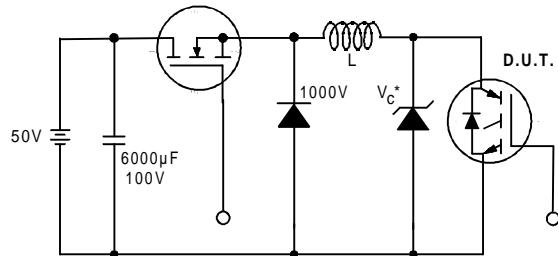

Figure 19. Clamped Inductive Load Test Circuit
- ② $V_{CC}=80\% (V_{CES})$, $V_{GE}=20V$, $L=10\mu H$, $R_G = 100W$ (figure 19)
- ③ Pulse width $\leq 80\mu s$; duty factor $\leq 0.1\%$.
- ④ Pulse width $5.0\mu s$, single shot.